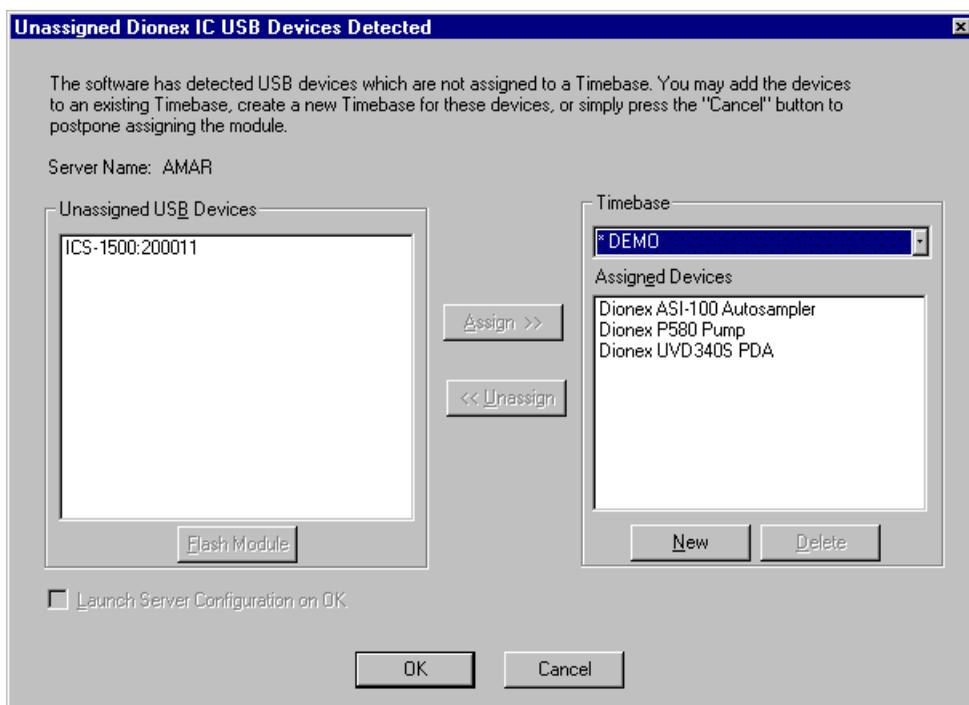

Figure 10. ICS-1500 Unassigned to Timebase
3. The Unassigned USB Devices dialog box appears (see Figure 10).